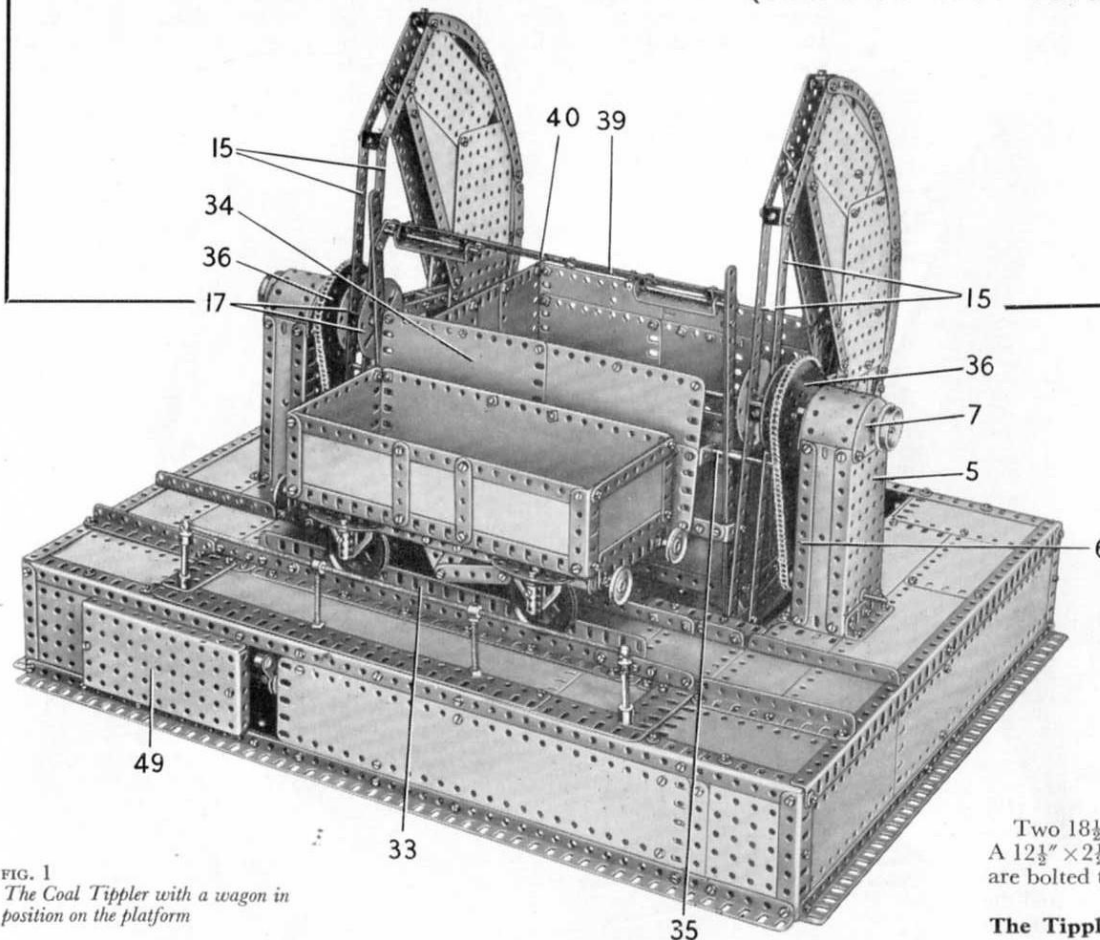
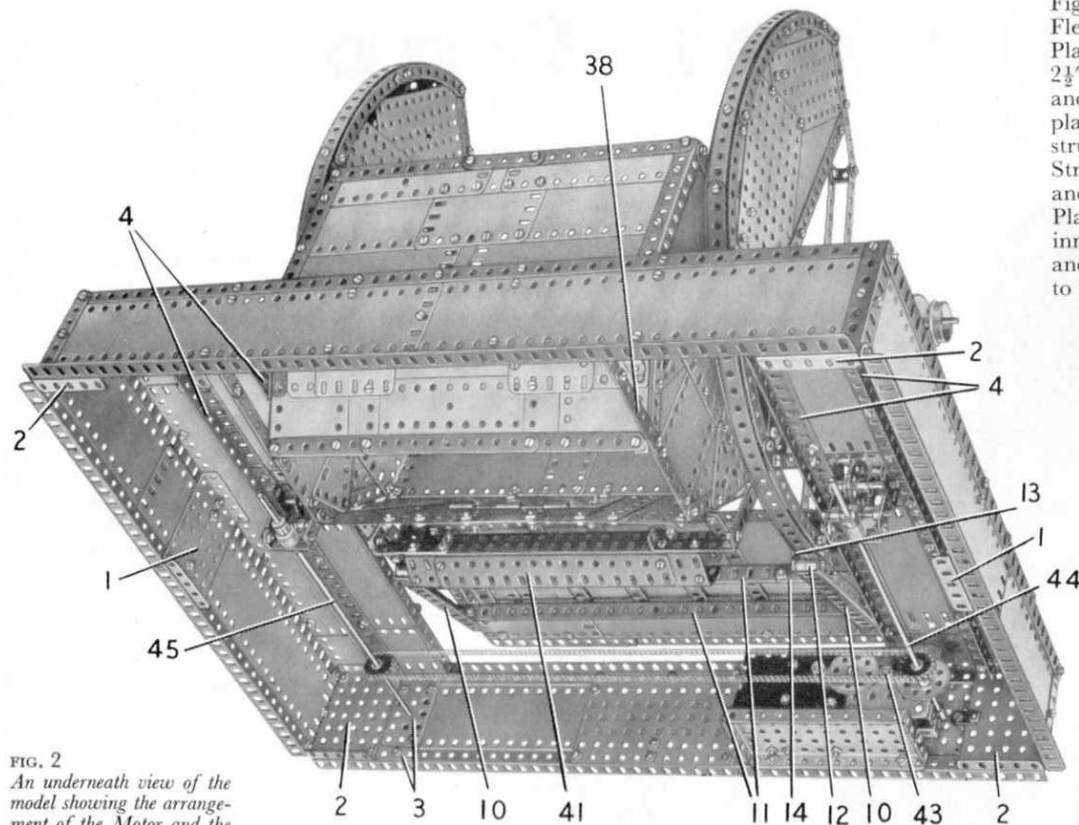
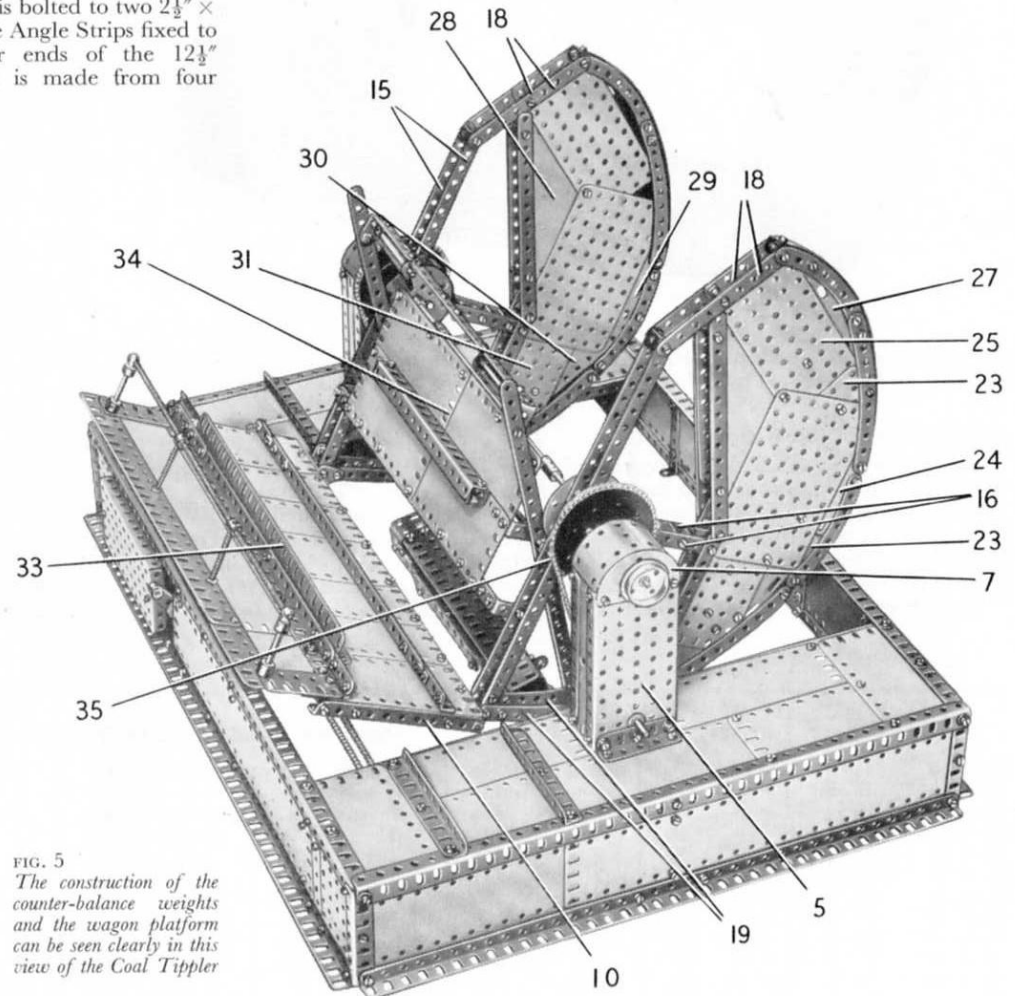
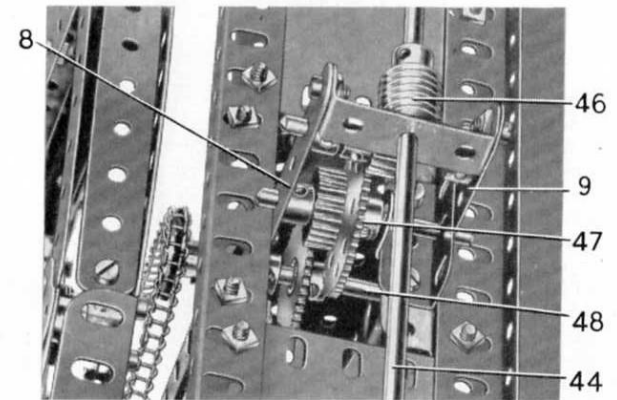

FIG. 1
FIG. 2
FIG. 5
FIG. 7
Construction of the Model: The Base (Fig. 2)
Each side of the base consists of two $18\frac{1}{2}$ " Angle Girders joined at their ends by $3\frac{1}{2}$ " Angle Girders, and connected at the centre by a $3\frac{1}{2}$ " \times $2\frac{1}{2}$ " Flanged Plate (1) (Fig. 2). The sides are filled in by $12\frac{1}{2}$ " \times $2\frac{1}{2}$ " Strip Plates. The sides are connected at the front and the back by $24\frac{1}{2}$ " Angle Girders, with the corners strengthened by $3\frac{1}{2}$ " \times $2\frac{1}{2}$ " Flanged Plates (2). The $24\frac{1}{2}$ " Angle Girders are braced at the centre by $5\frac{1}{2}$ " \times $3\frac{1}{2}$ " Flat Plates, and at the front two $3"$ \times $1\frac{1}{2}"$ Flat Plates (3) are bolted between the Girders. The front and the back are completed by $12\frac{1}{2}$ " \times $2\frac{1}{2}"$ Strip Plates, as shown in Figs. 1 and 2.
Two $18\frac{1}{2}"$ Angle Girders (4) are bolted across the top of the base at each end (Fig. 2). A $12\frac{1}{2}"$ \times $2\frac{1}{2}"$ Strip Plate, three $4\frac{1}{2}"$ \times $2\frac{1}{2}"$ Flexible Plates and two $5\frac{1}{2}"$ \times $2\frac{1}{2}"$ Flexible Plates, are bolted to these Girders at each end to fill in the top.
The Tippler Supporting Columns (Figs. 1, 2, 3, 5 and 7)
The outer face of each column is a $5\frac{1}{2}"$ \times $2\frac{1}{2}"$ Flanged Plate (5) fixed to a $2\frac{1}{2}"$ Angle Girder bolted to one of the Girders (4). The inner face is formed by two $5\frac{1}{2}"$ Angle Girders (6) supported by a $2\frac{1}{2}"$ Angle Girder fixed to the second of the Girders (4). The Flanged Plate (5) and the Girders (6) are extended upward by Semi-Circular Plates (7) (Fig. 5), and the sides and top of the column are filled in by $5\frac{1}{2}"$ \times $1\frac{1}{2}"$ Flexible Plates. A $7\frac{1}{2}"$ Strip (8) (Fig. 7) is bolted to the inner face of the column, and a $2\frac{1}{2}"$ Strip (9) is fixed to the Flanged Plate (5) and to a $1\frac{1}{2}"$ Angle Girder attached to one of the Girders (4). The lower ends of Strips (8) and (9) are connected by a $1\frac{1}{2}"$ \times $\frac{1}{2}"$ Double Angle Strip.
The Tippler Platform and Counter-Balance Weights (Figs. 1, 2, 3, and 5)
The frame that supports each counter-balance consists of two $12\frac{1}{2}"$ Strips (15) (Fig. 5) bolted to the Bell Crank (12) and to Corner Bracket (13). These Strips are connected at a point 14 holes from their lower ends, by a Double Bracket, and at their upper ends by another Double Bracket. The bolts that fix the centre Double Bracket secure also two $5\frac{1}{2}"$ Strips (16), to each of which is fastened a Face Plate (17) (Fig. 1). The Strips (16) are connected by a Double Bent Strip.
Fig. 5. The outer face of each counter-balance is filled in by a $2\frac{1}{2}" \times 2\frac{1}{2}"$ Triangular Flexible Plate (21), a $4\frac{1}{2}" \times 2\frac{1}{2}"$ Flat Plate (22), a $3\frac{1}{2}" \times 1\frac{1}{2}"$ Triangular Flexible Plate, a $5\frac{1}{2}" \times 3\frac{1}{2}"$ Flat Plate, two $2\frac{1}{2}" \times 1\frac{1}{2}"$ Triangular Flexible Plates (23), a $2\frac{1}{2}" \times 1\frac{1}{2}"$ Flexible Plate (24), a $5\frac{1}{2}" \times 2\frac{1}{2}"$ Flat Plate (25), a $5\frac{1}{2}" \times 2\frac{1}{2}"$ Flexible Plate and a $3\frac{1}{2}" \times 2\frac{1}{2}"$ Triangular Flexible Plate (27). Three $12\frac{1}{2}"$ Angle Girders placed together are bolted on the inside of these Plates to add to the weight of the structure, and the inner edges of the counter-balance are finished by $5\frac{1}{2}"$ and $7\frac{1}{2}"$ Strips as shown. The inside face of each counter-balance is formed by a $5\frac{1}{2}" \times 2\frac{1}{2}"$ and a $5\frac{1}{2}" \times 3\frac{1}{2}"$ Flat Plate, a $5\frac{1}{2}" \times 2\frac{1}{2}"$ Flexible Plate (28), a $2\frac{1}{2}" \times 1\frac{1}{2}"$ Flexible Plate (29), a $4\frac{1}{2}" \times 2\frac{1}{2}"$ Flexible Plate (30) and a $4\frac{1}{2}" \times 2\frac{1}{2}"$ Flat Plate (31). The inner and outer faces of the counter-balance are connected by Double Brackets, and two curved $12\frac{1}{2}"$ Strips are fixed to the outer edges by Angle Brackets.
The front section of the tippler platform consists of a $12\frac{1}{2}'' \times 2\frac{1}{2}''$ Strip Plate and a $4\frac{1}{2}'' \times 2\frac{1}{2}''$ Flexible Plate, overlapped three holes and edged by a $12\frac{1}{2}''$ and a $5\frac{1}{2}''$ Flat Girder. The platform is completed by five $5\frac{1}{2}'' \times 2\frac{1}{2}''$ Flexible Plates and two $4\frac{1}{2}'' \times 2\frac{1}{2}''$ Flexible Plates (Fig. 5). These Plates are strengthened underneath by two built-up strips, placed one along the rear edge of the platform and one below the join between the Strip Plate and the Flexible Plates. Each built-up strip is made from two $9\frac{1}{2}''$ Strips overlapped seven holes. The joins between the $5\frac{1}{2}'' \times 2\frac{1}{2}''$ Flexible Plates are strengthened by $5\frac{1}{2}''$ Strips. Two $5\frac{1}{2}''$ Angle Girders (32) (Fig. 3), are bolted underneath the platform and a Fishplate lock-nutted to each of these Girders is bolted to one of the Girders (10).
A backplate (34) (Fig. 1) above the platform is formed by four $5\frac{1}{2}'' \times 2\frac{1}{2}''$ Flexible Plates bolted together, with the joins and edges strengthened by two $4\frac{1}{2}''$ Strips and six $5\frac{1}{2}''$ Strips. This backplate is connected to two of the Strips (15) by $1'' \times 1''$ Angle Brackets, and two further $1'' \times 1''$ Angle Brackets are passed over a made-up rod (35). This Rod consists of a 1" Rod and two $6\frac{1}{2}''$ Rods connected by Couplings, and it is held in the Strips (15) by two Collars, and two further Collars space the backplate from Strips (15). Two $7\frac{1}{2}''$ Angle Girders are attached to the centre of the backplate by Angle Brackets.
The Wagon Locking Beam (Figs. 1 and 2)
As the tippler operates the wagon is held against the rails on the platform by the swinging beam (39) (Fig. 1) which bears against the top of the wagon. The side-members of this beam are each formed by two $12\frac{1}{2}''$ Strips placed face to face and pivoted 12 holes from their top ends on the rod (35). The upper ends of these Strips are connected by a built-up strip (40), bolted to $1'' \times 1''$ Angle Brackets. The strip (40) consists of a $5\frac{1}{2}''$ Strip at each end overlapping a centre $5\frac{1}{2}''$ Strip by five holes. The end $5\frac{1}{2}''$ Strips have $2\frac{1}{2}''$ Strips bolted to them for strengthening purposes. A $2\frac{1}{2}'' \times \frac{1}{2}''$ Double Angle Strip at each end of the strip (40) is pivoted on a $3\frac{1}{2}''$ Rod held by Spring Clips in two Angle Brackets bolted to the strip.
Construction of the Wagon (Fig. 1)
The Operating Mechanism (Figs. 2, 4 and 7)
A ½" Pinion on the Motor armature shaft drives a 57-tooth Gear on a 2½" Rod that carries also a ½" Pinion (42) (Fig. 4). This Pinion engages a 57-tooth Gear on another 2½" Rod fitted with a ½" Pinion (43) (Fig. 2), and the latter Pinion drives a 57-tooth Gear on an 11½" Rod (44) mounted as shown. Rod (44) carries a 1" Sprocket that is connected by Chain to a similar Sprocket on another 11½" Rod (45).
Each Rod (44) and (45) carries a Worm (46) (Fig. 7), which drives a ½" Pinion on a 2" Rod and this Pinion engages a 57-tooth Gear (47) on another 2" Rod (Fig. 7). A ¾" Pinion is fixed also on this Rod and drives a 50-tooth Gear on a 3" Rod (48). A ¾" Sprocket on Rod (48) is connected by Chain to one of the 3" Sprockets (36).